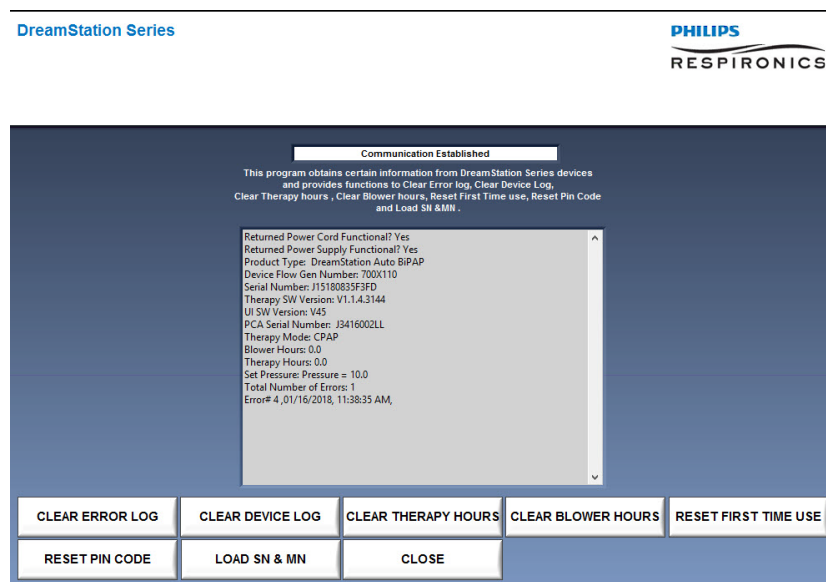

FIGURE 6-4: DS LOGS EXECUTED (EXAMPLE ONLY)
DS Logs (DreamStation Logs)	This function allows you the retrieve certain data from the device, including device error codes (if any are logged). Within this function, you can also choose to clear the error log, device log, therapy hours and blower hours. You can also reset the provider PIN code and load the serial number (SN) and model number (MN) to the device. This function will also prompt you if the returned power cord and power supply are functional, with the options of "Yes", "No", or "Not Returned". See Figure 6-4 below for an example of data retrieved from the device.